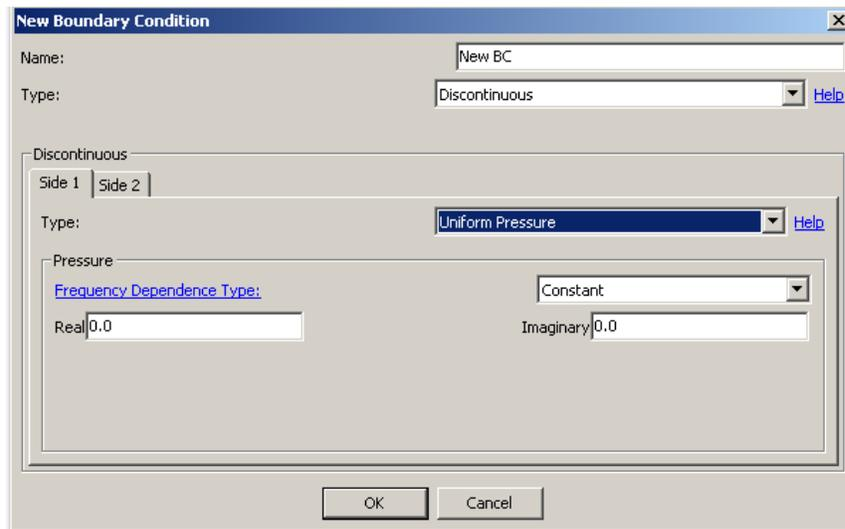

Figure 6.36 Discontinuous Uniform Pressure
**6.6.10.2. Uniform Pressure** This Boundary Condition is applied on the side of the element where the pressure is uniformly distributed. That is, there is no variation of pressure with position. The pressure values can be specified by selecting any of the frequency dependence types: *Constant*, *Table*, or *Script*. (Figure 6.36)